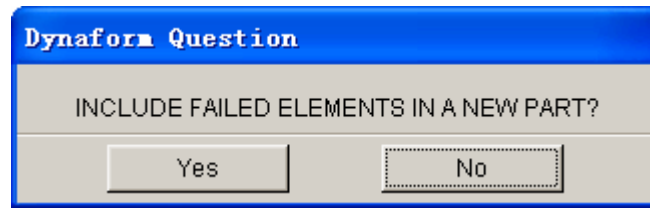

Figure 5.6.4 DYNIFORM Question Window
2. If there are failed elements, a DYNAFORM QUESTION window appears. See Figure 5.6.4.